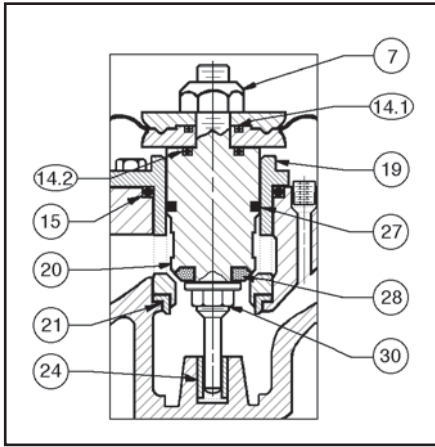
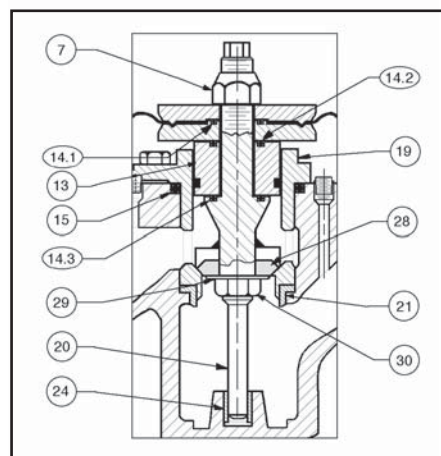

Figure 2: Body Sizes
Figure 6: Body Sizes
1. Body Sizes 1/2" – 2". (See Figures 2 thru 5):
- b. Place plug into a vise using the bars of a. above positioned on "flats" located on plug (20) to prevent vise jaw marks from direct surface contact with the plug (20). Orient with diaphragms on topside.
- c. Sizes 1/2" – 1": Remove diaphragm locknut (7) by rotating CCW. Sizes 1-1/4" – 2": Remove diaphragm cap screw (7) by rotating CCW.
- d. Remove upper diaphragm pressure plate (8).
- h. Remove lower diaphragm pusher plate (10).
- j. Remove plug (20) from vise, rotate end-for-end, and resecure in vise using same metal bars of a. above.
- k. Loosen seat nut (30) CCW (viewed from above) approximately two (2) revolutions.
- l. Remove assembly (20, 27, 28, 29, 30) from vise. Complete removal of seat disc nut (30), seat disc washer (29), and seat disc (28).
2. Body Sizes 2-1/2" – 4". (See Figure 6):
- a. Place seat disc nut (30) into a vise with the plug (20) oriented vertically. Do NOT over-tighten nut (30) in vise.
- b. Place closed-end hex wrench onto diaphragm locknut (7). Place socket wrench on 3/4" hex upper end of plug (20). Loosen diaphragm locknut (7) while holding plug (20) from rotating by socket wrench. Remove diaphragm locknut (7) after fully loosened and socket wrench is removed.
- c. Remove upper diaphragm pressure plate (8).